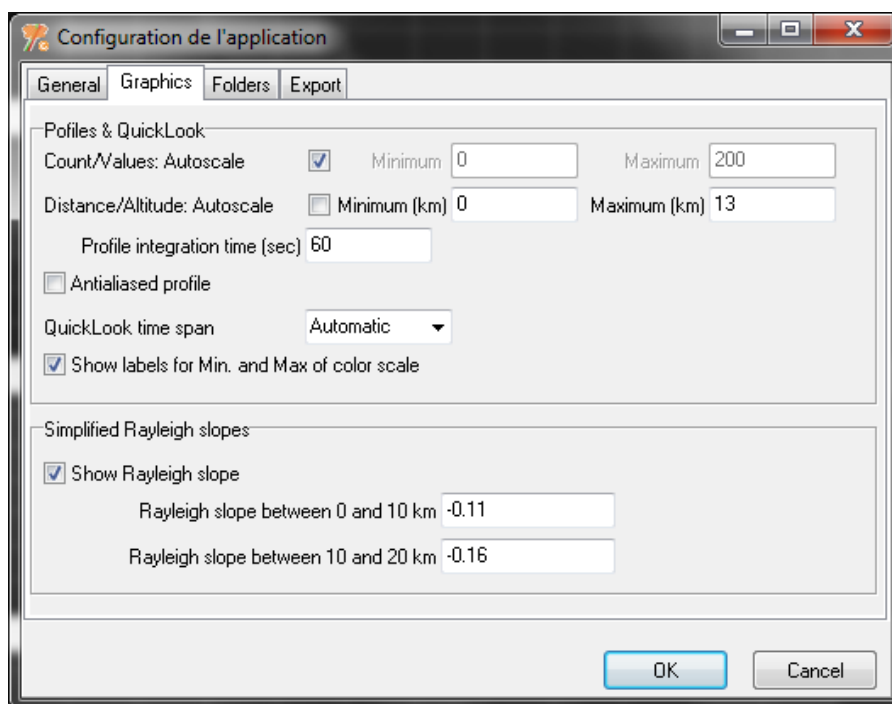

FIGURE 11 : CONFIGURATION, GRAPHICS TAB
- "Graphics" (figure 11): in this tab, graphic elements are defined such as axis scales, profile time... Scales can be directly modified by clicking on the profile axes in the main window of the application. The simplified Rayleigh curve can be displayed on the profiles or not. To make it coincide with a profile just right click on the desired curve.